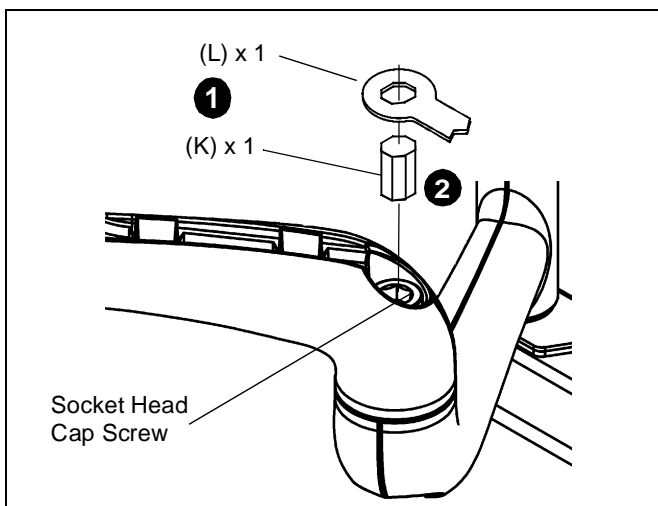

Figure 10
1. Locate the adjustment bar (K) and adjustment wrench (L).
2. Place adjustment bar (K) into socket head cap screw located at swing arm pivot point. (See Figure 10)